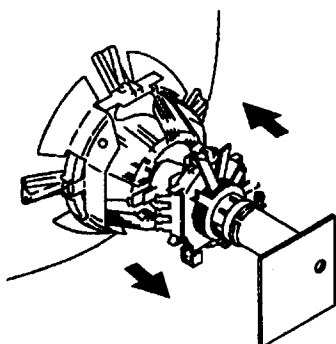

Fig. 3-1
(see Fig. 3-1 through 3-3.)
4. Move the deflection yoke forward and adjust so that entire screen becomes red. (See Fig. 3-1.)